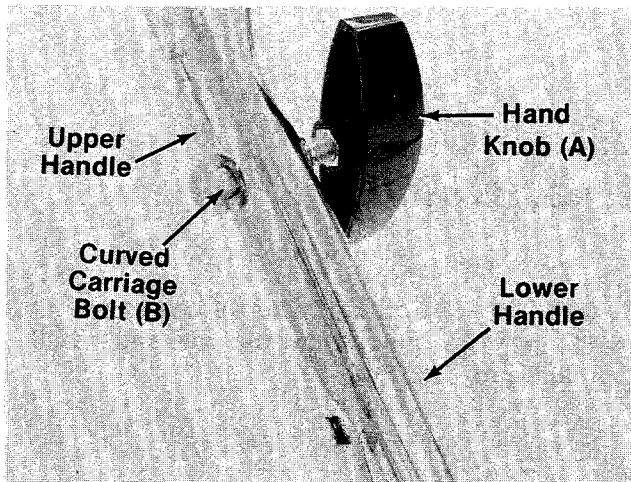

FIGURE 4.
- Place upper handle over lower handle. Secure with two carriage bolts (B) and hand knobs (A) as shown in figure 4. The knobs can be either to the inside or the outside of the handle.